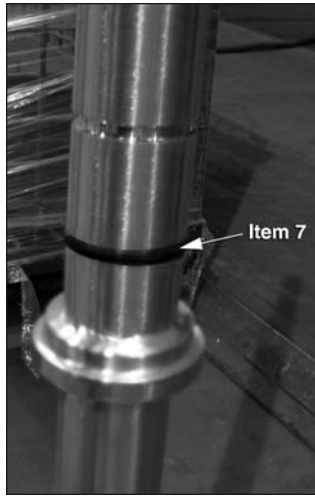

Figure 4
- Install one of the O-rings (item 7) in the groove on the agitator shaft closer to the prop, then cover the exposed surface of the O-ring with a thin coating of food-grade lubricant, such as NEVER-SEEZ® White Food Grade or Loctite® Food Grade Anti-Seize. See Figure 4.